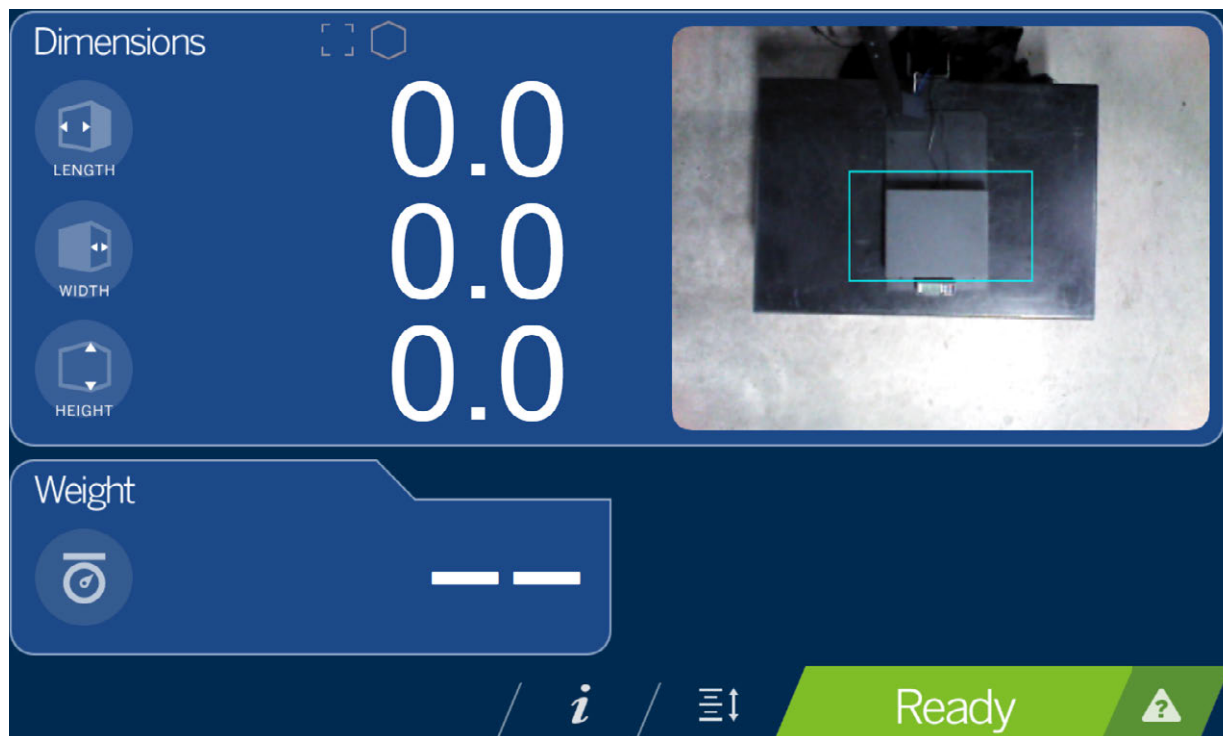

Figure 3-1. Touchscreen Display
1. From the display (Figure 3-1 on page 10), select the **Device Information** button  (Figure 4.1 on page 15) at the bottom of the display.
- Upon successful zero height calibration then select  (Figure 3-1 on page 10).
The weigh area provides a real-time view of the scanning area from the scanning head onto the USB display. The blue box within Figure 3-1 is the **Scan Zone** which indicates the area the iDimension Plus will dimension (Section 8.1 on page 37).
5. Upon successful zero height calibration then select . The display returns to the **Touchscreen Display** (Figure 3-1 on page 10).
1. Select the **Device Information** function key  located at the bottom of the screen (Figure 3-1 on page 10).